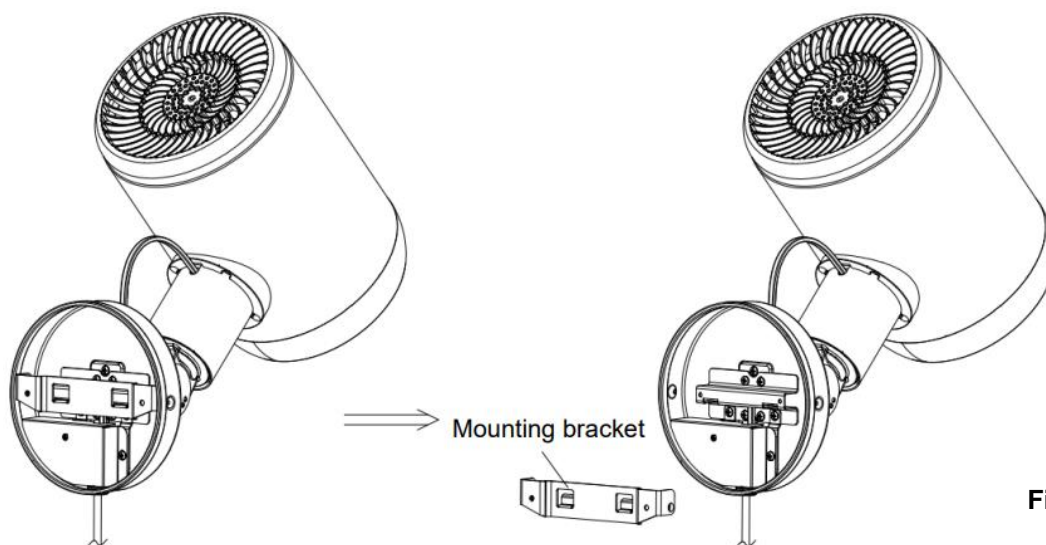

Fig. 2
- Remove the mounting bracket from the canopy of fan assembly. (Fig.2)